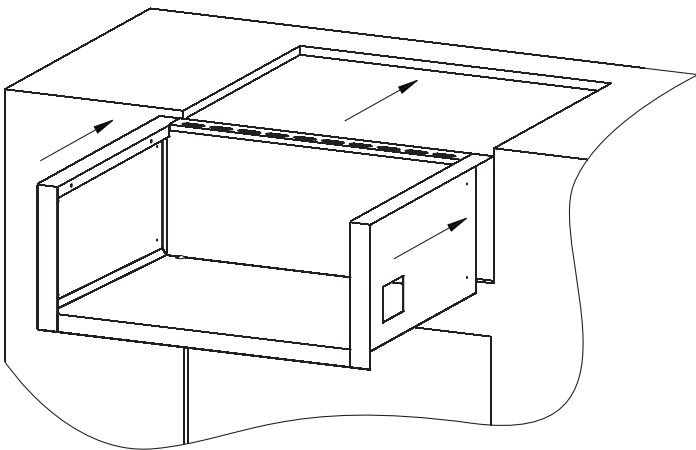

Figure 2
2. Place the SBB surround into position in the constructed enclosure. See **Figure 2**.